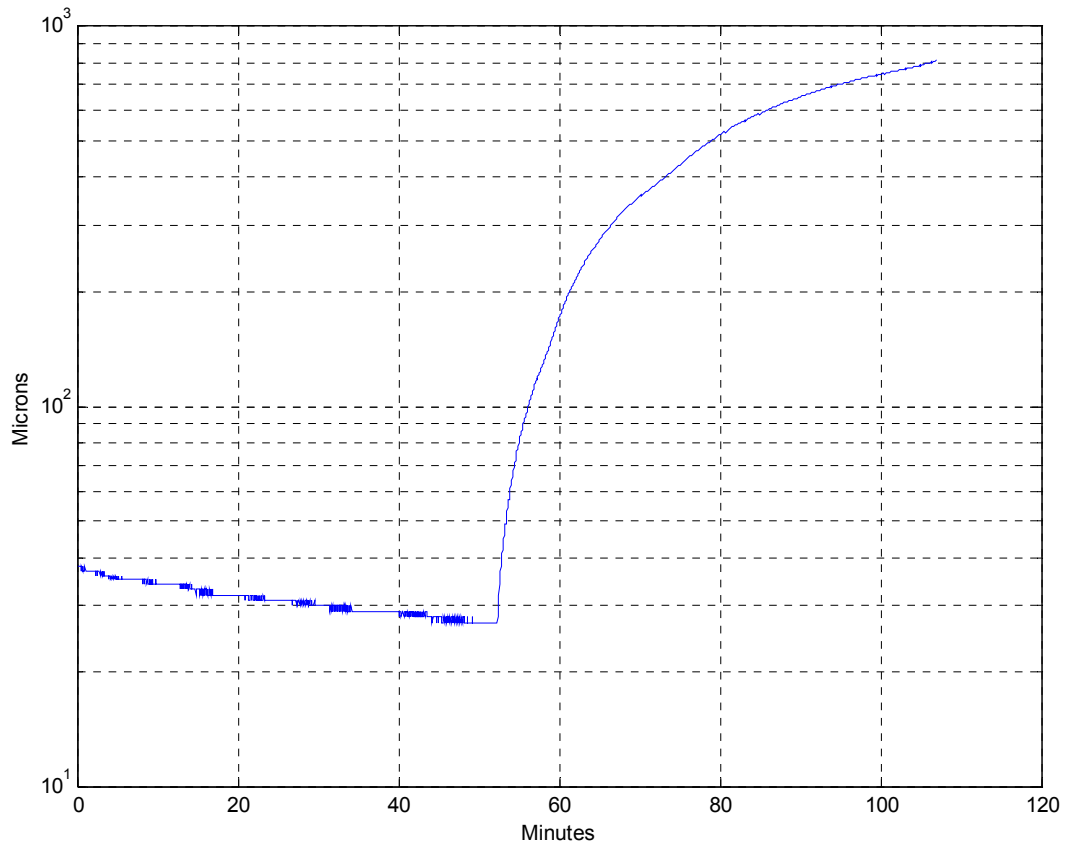

Figure 1: Short Term Pressure Rise in a Sealed System
Lets look at some test results. The first system is a sealed canister about 1.5 liter in volume (0.05 cubic feet). The system was connected to the vacuum pump using copper tubing. The system was evacuated to a vacuum under 20 microns, the vacuum pump was then blanked off using a good quality ball valve. The plot of the vacuum rise is shown in Figure 1. Note that this system does meet the ASHRAE specification (2) above. From the 300 micron point the vacuum only rises to about 700 microns in 30 minutes.